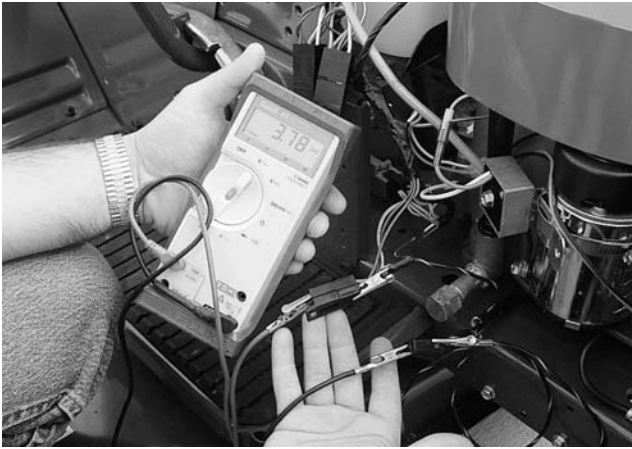

Figure 3-52.
4. If the meter reads 3.5 amps or above, proceed to checking the air gap. See Figure 3-52.